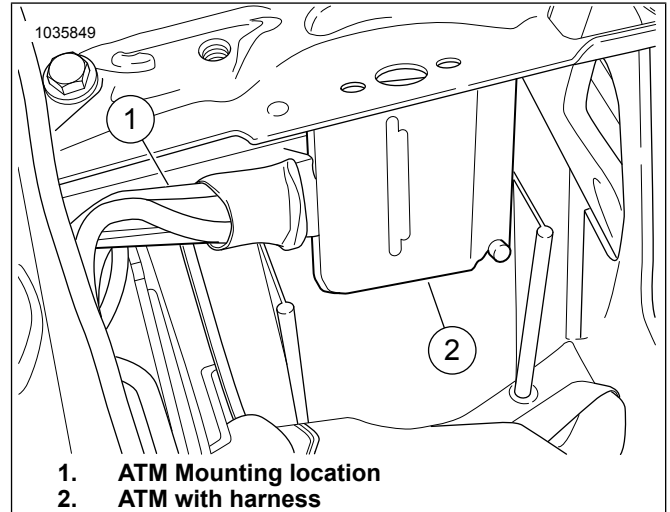

Figure 14. ATM Mounting Location
13. See Figure 14. Clean mounting surface with alcohol pad. Remove liner from adhesive backing and install dual lock tape to ATM. Remove liner from adhesive backing of dual lock tape and install ATM (1) to back of battery compartment.